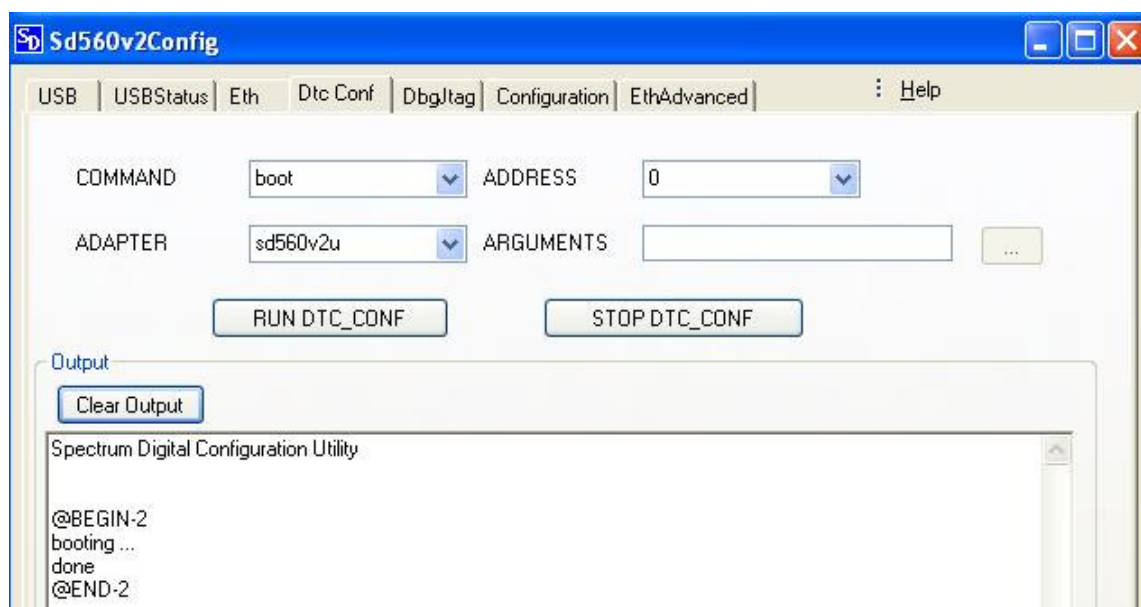

FIGURE 18: Sd560v2Config – Dtc Conf Tab Boot Command
4. Click on RUN DTC_CONF. This will reboot the emulator which takes approximately 45 seconds to boot. A sample output is shown in figure 18 below.